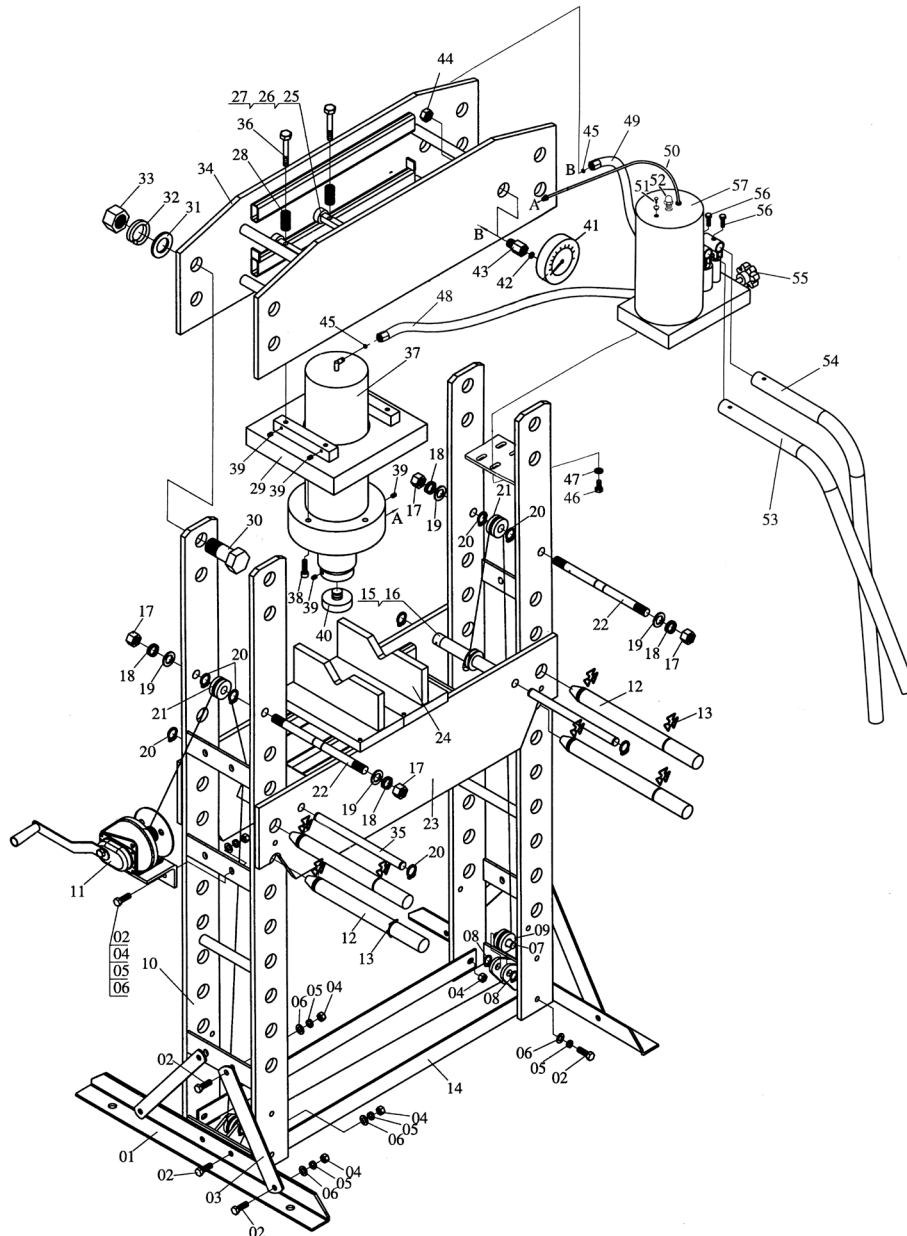

fig.1
- 4.1. YK509F 50TON PRESS ASSEMBLY (use the exploded diagram Fig.1 as a guide to assembly).